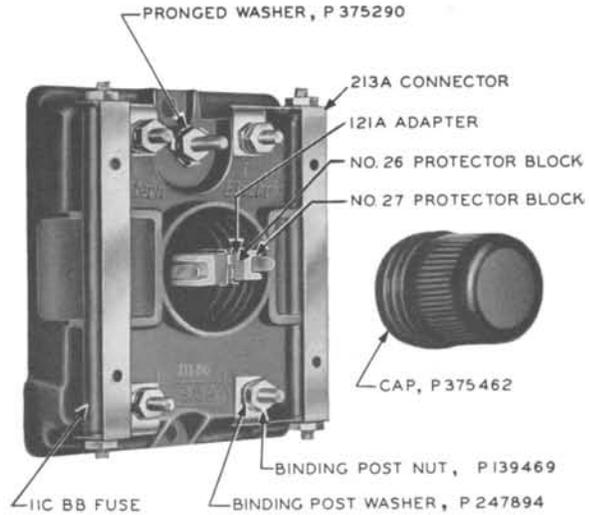
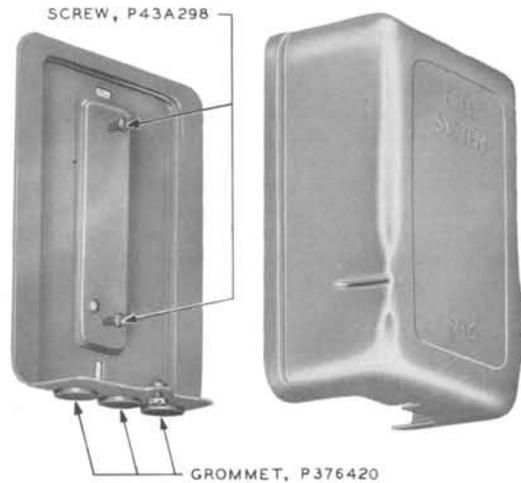

FIG. 3—98AA PROTECTOR
FIG. 4—93C PROTECTOR MOUNTING
3.02 The 98AA protector shown in Fig. 3 is a fuseless conversion of the 98A fused protector. It should be used with a 93C (see Fig. 4) or 93A protector mounting when installed outdoors. The protector, complete with 93C mounting, is coded 1093CA.